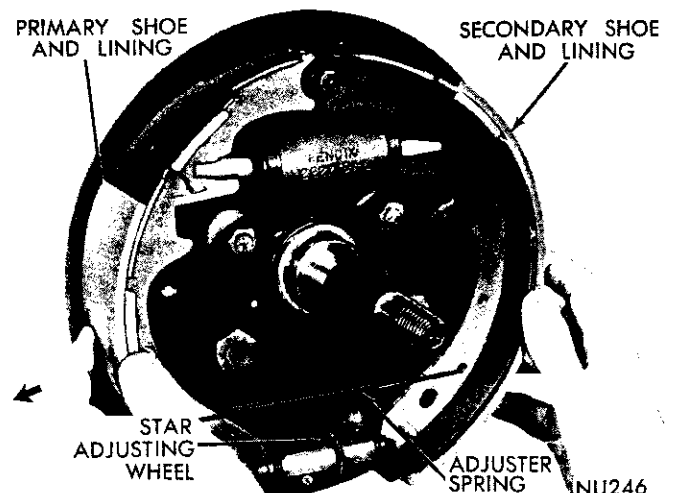

Fig. 9—Installing Brake Shoes (Left Front)
(4) Spread anchor ends of brake shoes to hold star adjusting wheel assembly in position.
(5) Holding brake shoes firmly, place assembly on support plate, and at the same time engage shoe webs with push rods (if so equipped). (Fig. 9).